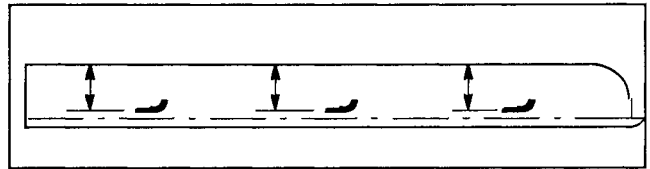

Figure 12
CHECKING FOR BENT BLADE (Fig. 12)
2. Rotate blade until the ends face forward and backward. Measure from inside of cutting unit to cutting edge at front of blade (Fig. 12), and remember this dimension.